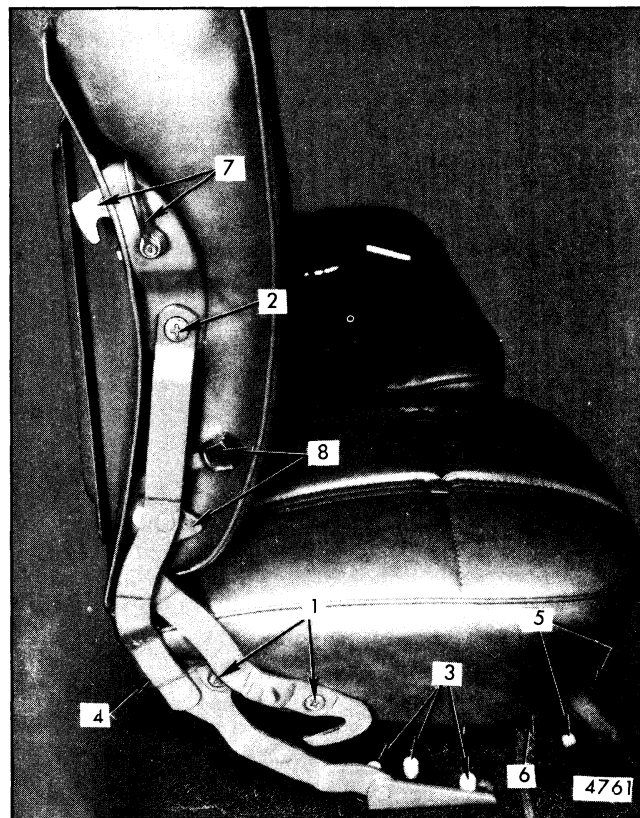

Fig. 9-87-Folding Second 1/3 Seat Back Outer Linkage, Seat Back Lock and Linkage Lock - "B" Body Three-Seat Station Wagon
3. Remove 1/3 seat cushion front linkage-to-floor pan stud caps and attaching nuts (Fig. 9-87).
4. Remove 1/3 seat back outer linkage-to-floor pan stud caps and attaching nuts (Fig. 9-87); then, remove seat assembly, including all attached linkages, from body.
2. Remove seat back outer linkage-to-seat cushion screws (Fig. 9-87) and outer linkage to seat back panel screw.
3. Remove seat back outer linkage-to-floor pan attaching stud caps and nuts at locations indicated in Figure 9-87; then, remove outer linkage from seat.